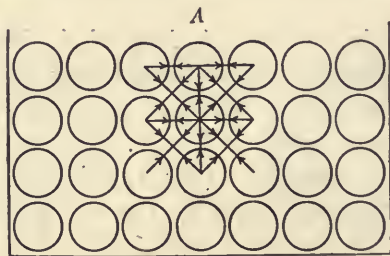

FIG. 14.—The molecule at *A* is held differently from one within the liquid.
23. Explanation of the Surface Film.—Beneath the surface of a liquid each molecule is attracted by all the other molecules around it. It is attracted equally in all directions. Consequently the interior molecules move very easily over each other in any direction. A molecule at the surface, as at *A*, Fig. 14, is not attracted *upward* by other liquid molecules. Its freedom of motion is thereby hindered with the result that a molecule at the surface